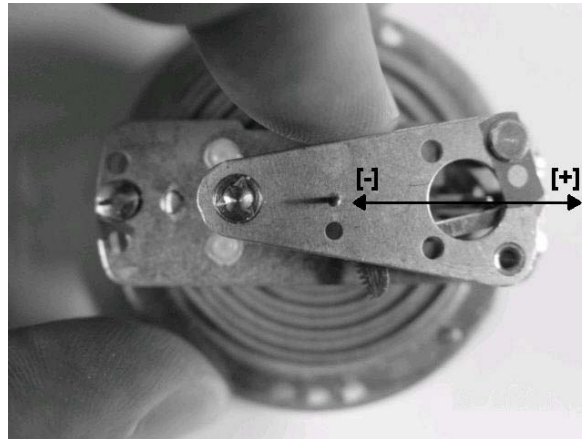

Figure 3-7. S&K span adjustment.
22. If the span is too high, using calibration tool (T18816), bend the adjustment pin towards the pinion parallel to the gear sector when pressurized at 300 mmHg. Change the pressure to 0. Make sure to re-adjust the test dial so that the pointer will be slightly left of the graduation line. Re-pressurize to 320 mmHg then to 300 mmHg to evaluate effects of adjustment. See Figure 3-7.